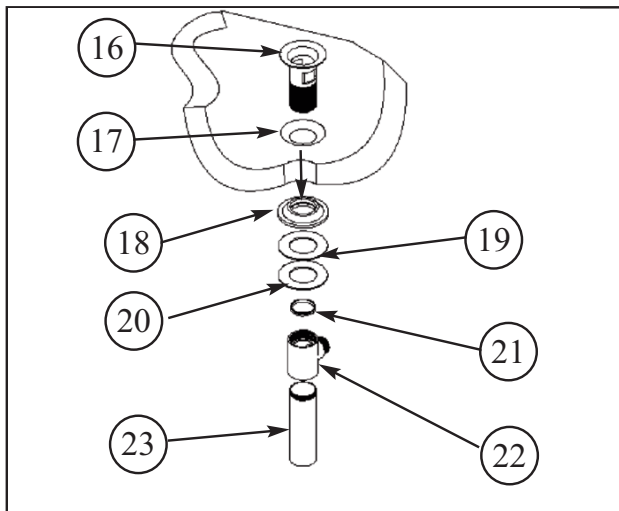

Figure 5
6. Remove drain PLUG (15) from FLANGE (16). Place FLANGE (16) and white WASHER (17) through sink drain opening. (Clear silicone may be used in place of white washer.) From bottom side of sink, place cone shaped rubber WASHER (18) onto FLANGE (16) and slide up against sink bottom. Note: Cone portion of WASHER (18) to face upward. Next slide on clear flat WASHER (19) and secure with flange NUT (20). Place clear WASHER (21) into drain BODY (22) & tighten to FLANGE (16). Apply thread sealant to TAILPIECE (23) and attach to drain BODY (22). Attach TAILPIECE (23) to p-trap drain (not included). See Figure 5.